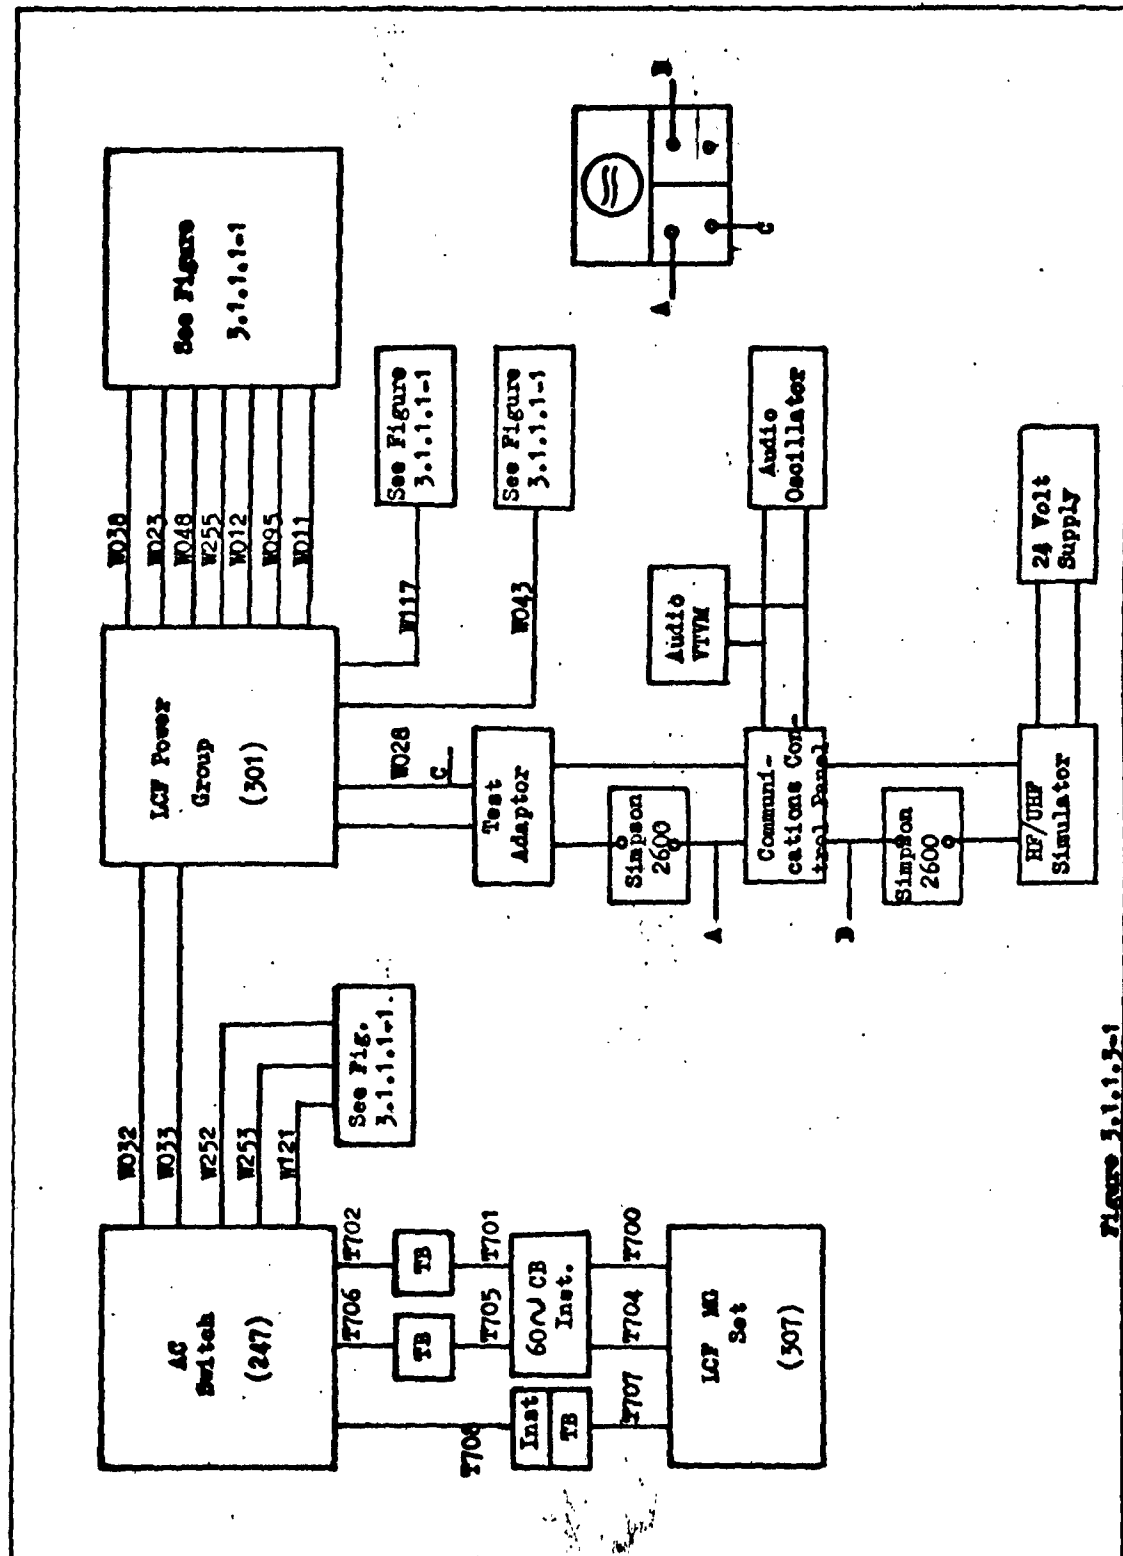

Figure 3.1.1.1-1
3.1 Connect the equipment per Figure 3.1.1.4-1 with all breakers open.